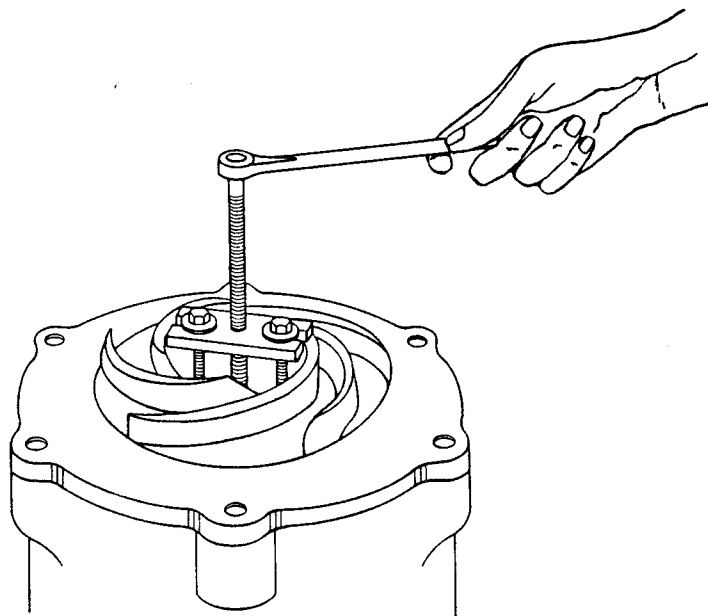

Figure 2. Removing Impeller With Puller
Remove the wood from the impeller vanes, and remove the capscrews (86) temporarily installed in the seal plate and lower motor housing. Refer to Figure 2, install the impeller puller supplied with the pump, and pull the impeller from the shaft. Use caution when removing the impeller; tension on the seal spring will be released. Retain the impeller key (85).